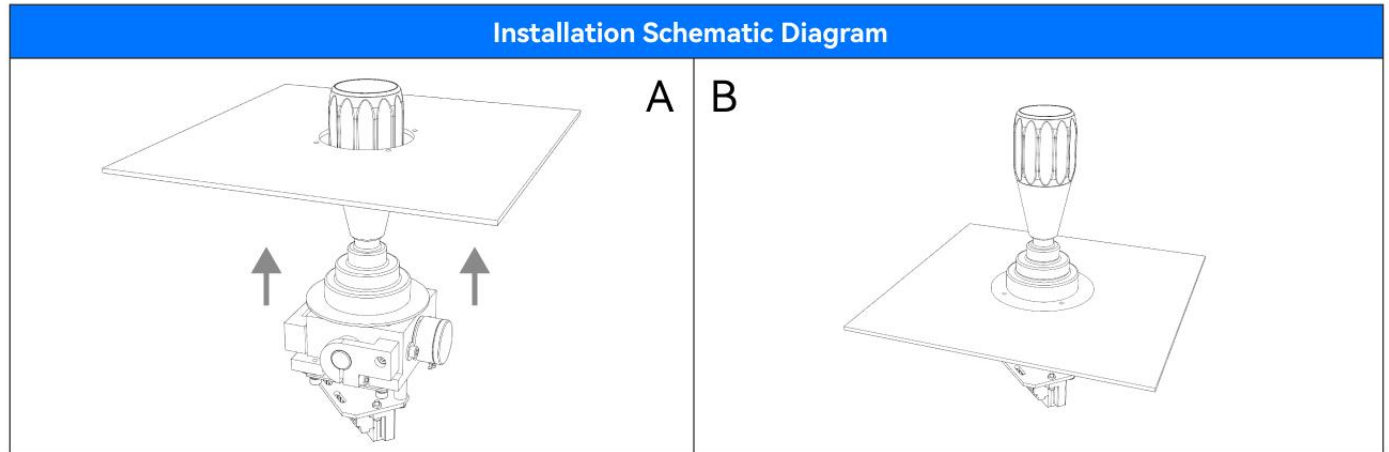

Figure3.1
1.As shown in Figure 3.1, insert the main body of Product A from below the mounting surface through the opening, and fix it to the mounting surface as illustrated in Figure B.